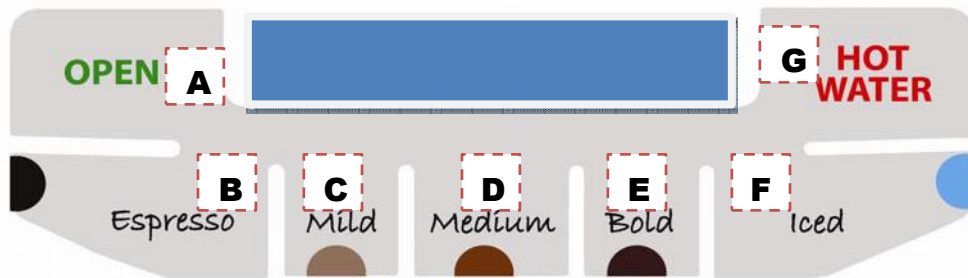

Fig 1: Fresh Cup Keys
The Fresh Cup pod brewer has a menu that consist of scrolling menu entries that can be scanned through backward and forward using button A and button B (see Fig 1). To enter a programming record, press and hold the Hot Water Key (G) when powering up machine (see Fig 1) then use button A and button B (see Fig 1) to change the entry. Pressing the Hot Water (G) key (see Fig 1) will exit the entry, saving the entire Parameter structure to memory upon exiting the programming menu using the END entry. There are nine entries on the Main menu and four on one sub menu, which is accessed through the **BUTTON SET UP** entry. The current entries in the Main menu are as follows:
Set Temperature: In this entry the user may set the tank temperature in the range of 170 to 205 degrees Fahrenheit with the default at 200 degrees F. Pressing button D (see Fig 1) will toggle the display so the user may view the real tank temperature. The real temperature display has all three decimal points illuminated. Pressing button D (see Fig 1) again will switch the display back to show the current set point. As with most of the entries, button A and button B (see Fig 1) will change the set point, incrementing or decrementing by one. Pressing the Hot Water key (G)(see Fig 1) will exit.
Set Energy Save Mode: This entry allows the user to select the Power Save mode. Use button A and button B (see Fig 1) to change the entry then press the Hot Water (G) key to exit.
Set Energy Save Time: This entry will not be displayed if the Power Save function has been turned off. This entry sets the time the machine will operate normally until the power save function is activated. The user can choose 1 through 4 hours in 1-hour increments with the default set to 4 hours. As with most of the entries, button A and button B (see Fig 1) will change the time, incrementing or decrementing by one. Pressing the Hot Water key (G) (see Fig 1) will exit.
Set Air Pump Speed: In this entry the user may set the air pump strength in the range of 5 to 10 strength with the default at 9. As with most of the entries button A and button B (see Fig 1) will change the Air Pump Strength, incrementing or decrementing by one. Pressing the Hot Water key (G)(see Fig 1) key will exit.
Set Air Pump Time: In this entry the user may set the air pump time in the range of 2 to 10 seconds with the default at 5. As with most of the entries button A and button B (see Fig 1) will change the Air Pump Time, incrementing or decrementing by one. Pressing the Hot Water key (G) (see Fig 1) key will exit.
Set Pod Count: In this entry the user may set the number of pods the brewer will hold before signaling that the bin is full. The range is 10 to 100 pods, with the default at 40. Setting the pod count under 10 turns off the count so the bin full alarm will never go off. As with most of the entries button A and button B (see Fig 1) will change the Pod Count threshold, incrementing or decrementing by one. Pressing the Hot Water key (G) (see Fig 1) will exit.
Recipe Settings: This entry takes the user into a sub menu to program the parameters unique to each key. When this entry is accessed the display will change to SELECT BUTTON indicating that the user should press the brew key (button B, C or D, E or F (see Fig 1)) to be programmed. When a brew key is selected the display will show the first entry in the Button Set up sub menu, PRE-INFUSION. While SELECT BUTTON is displayed the user may exit back to the Main menu by Pressing the Hot Water key (G) (see Fig 1).
Select Water Filter: This entry allows the user to select the filter size for the filter used on the inlet for the water. Choices include OFF, 500 GAL UP TO 3000 GAL. These set the counter for the filter warning. Whenever water is dispensed the counter is incremented to account for the water dispensed. When the counter is above 90% of the capacity of the chosen filter a warning message, "CHECK FILTRATION ", is displayed in place of the "READY" message. To reset the counter the user must enter the programming menu and enter the RESET FILTER entry described below. The following entries only show when a filter is selected. If the filter selection is OFF then following entries are not available. Pressing the Hot Water key (G) (see Fig 1) to leave the entry and return to the Main Programming menu.
GAL. REMAINING: This entry scrolls the number of Gallons left before the filter should be replaced. Pressing the Hot Water key (G) (see Fig 1) to leave the entry and return to the Main Programming menu.
RESET FILTER: When in this entry the message "PRESS OPEN TO RESET FILTER". Press the Open Door key will reset the Filter Use counter to the value chosen in the SELECT WATER FILTER entry above. Pressing the Hot Water key (G) (see Fig 1) to leave the entry and return to the Main Programming menu.